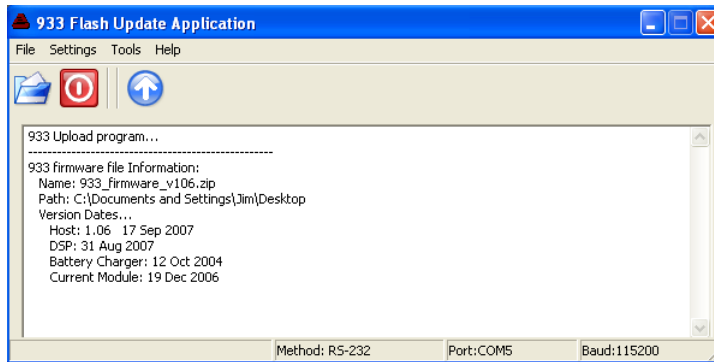

Figure B.2: Uploaded File Information
- Click the Open button or select File > Open, browse to locate the zipped firmware that you downloaded, select the file and click Open. The file should be automatically unzipped and ready to upload to the 933A. The uploader window should appear as in Figure B.2 and provide the firmware information.